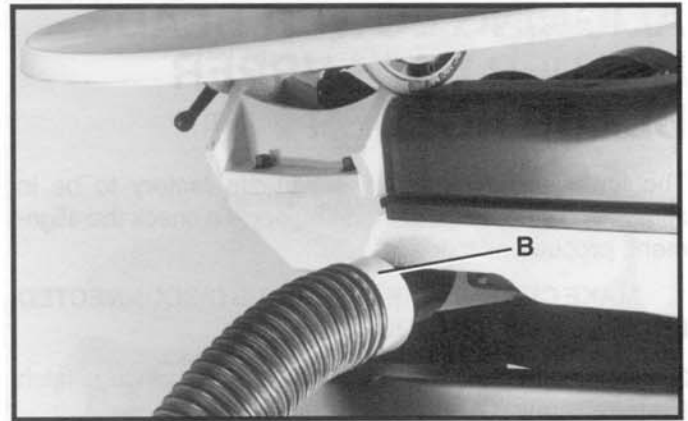

Fig. 39
A 2-1/4" O.D. dust collection port (B) Fig. 39, is supplied on the 20" Scroll Saw to provide efficient dust collection of the dust produced by the saw.